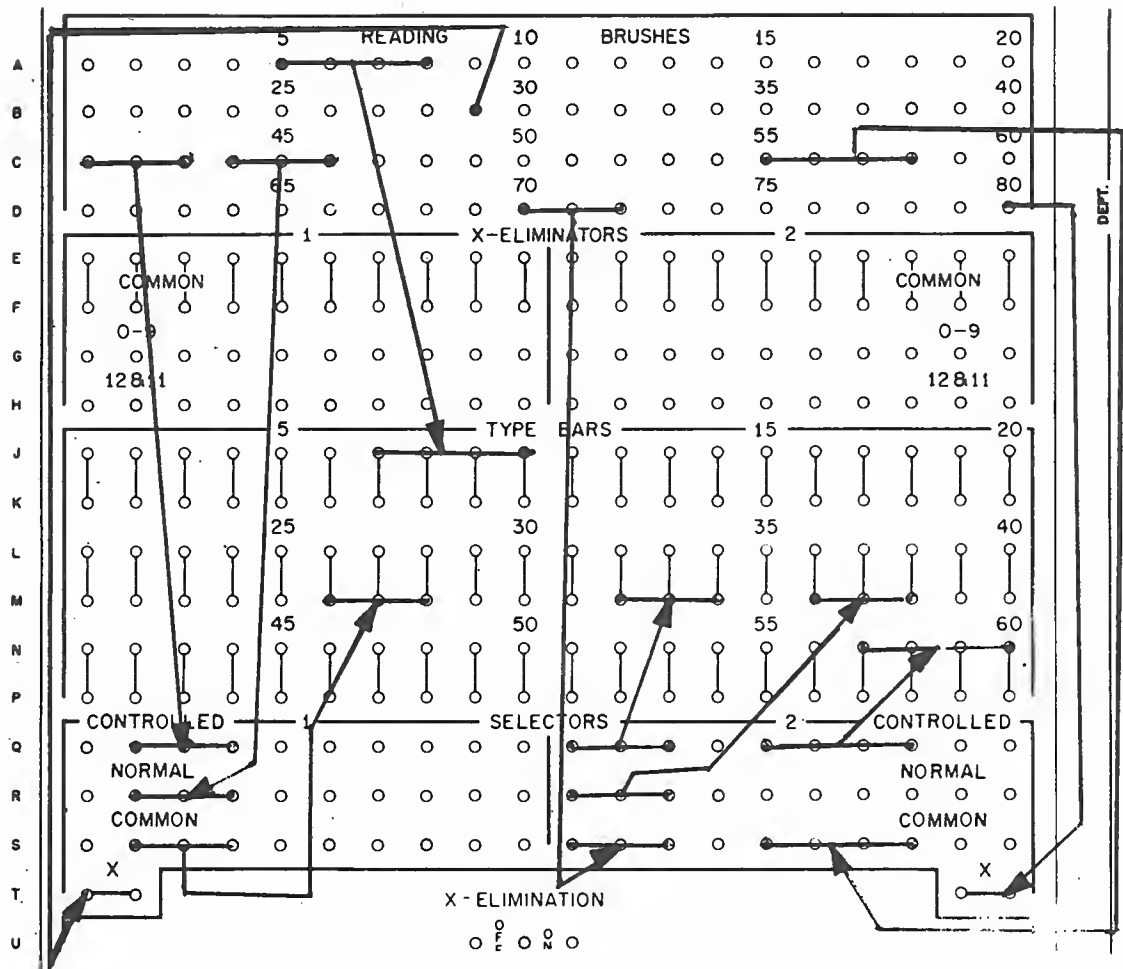

Figure 7.
- Refer to the diagram marked Figure 7 and answer the following questions True or False.